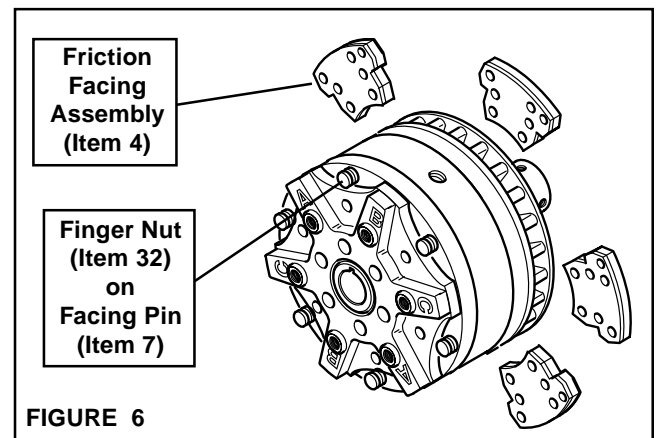

FIGURE 6
1. Pull out on the Finger Nut (Item 32) of the Facing Pin (Item 7) to release the Friction Facing Assembly (Item 4) (See Figure 6).
2. Slide the old Friction Facing Assembly (Item 4) out of the STB (See Figure 6).
3. Slide a new Friction Facing Assembly (Item 4) into the STB (See Figure 6).
4. Release the Finger Nut (Item 32) allowing the Facing Pin (Item 7) to lock the new Friction Facing Assembly (Item 4) in place (See Figure 6).